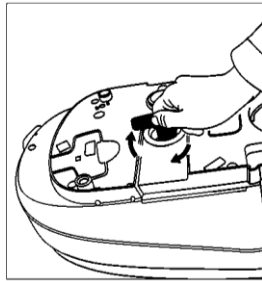

Fig 11
10. Screw the boiler cap back on again without using excessive force as Fig 11